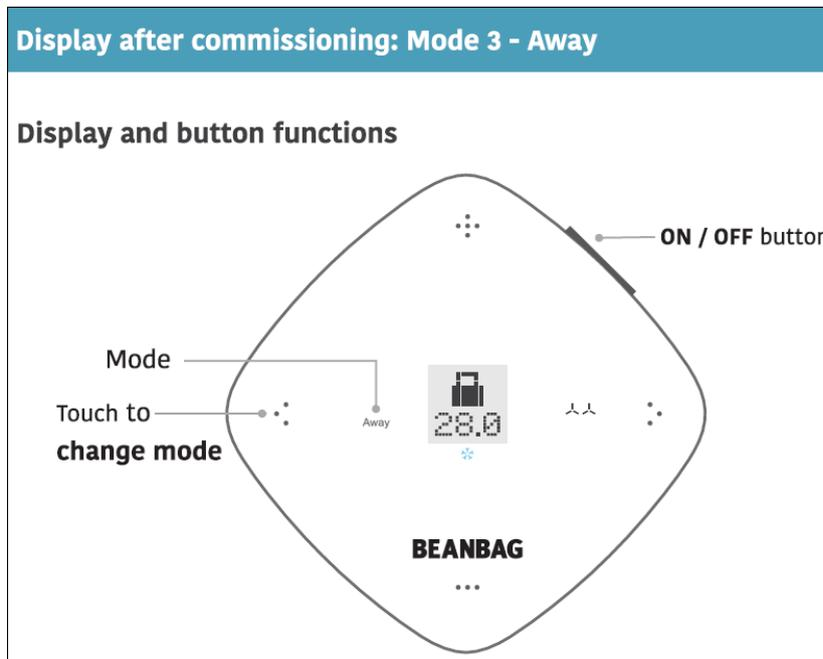

Figure 8: Thermostat 600 series display and user interface - Away mode
- Away mode**- Switch to Away mode, when moving out. This will maintain a fixed preset temperature and circulation of air in the room to protect your assets. In this mode, you cannot change any settings on the Thermostat locally, but the temperature set point can be changed using the mobile/web app. For details, refer Figure 8.